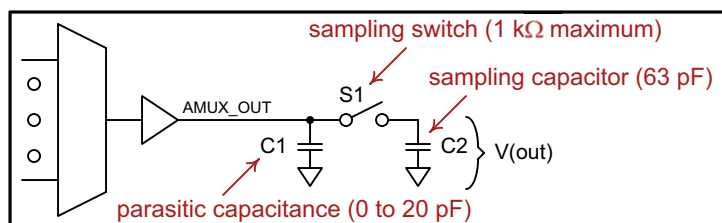

Figure 3-8 Analog-multiplexer load condition for settling time specification
1. The AMUX output and a typical load is modeled in Figure 3-8. After S1 closes, the voltage across C2 settles within the specified settling time.